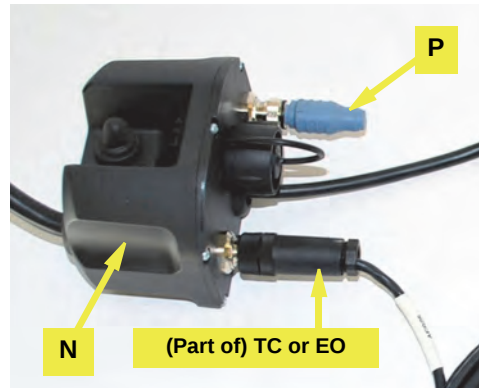

Figure 6d: CAN harness and terminator connected to junction box
- e. Connect the threaded 5-pin connector on the CAN bus harness **TC** (eDriveTC) or **EO** (eDriveX) to either of the threaded connectors on the junction box **N**. Connect the CAN bus terminator **P** to the other threaded connector on the junction box (Figure 6d).